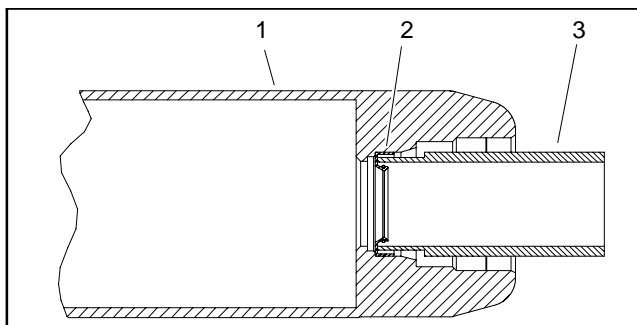

Figure 12
1. Install inner seals into roller tube making sure that seal lip (and garter spring) faces end of tube. Use inner seal tool (see Special Tools in this chapter) and soft face hammer to fully seat seals against roller shoulder (Fig. 12). Apply a small amount of grease around the lip of both inner seals after installation.